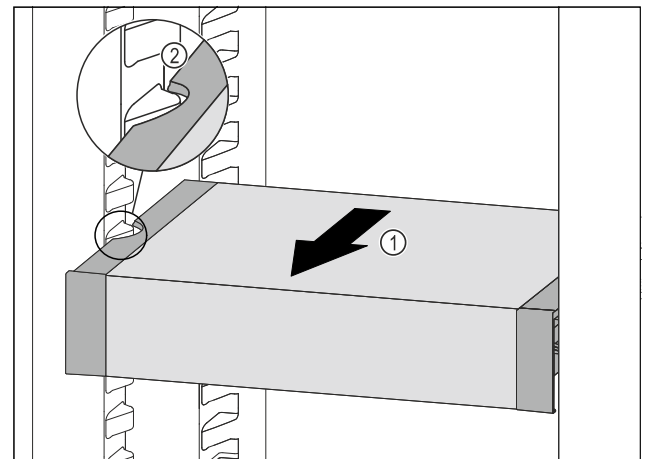

Fig. 57
- ▶ Pull VarioSafe forwards Fig. 57 (1) until the recesses in the side of the VarioSafe are at the level of the support rib in the refrigerator compartment. Fig. 57 (2)